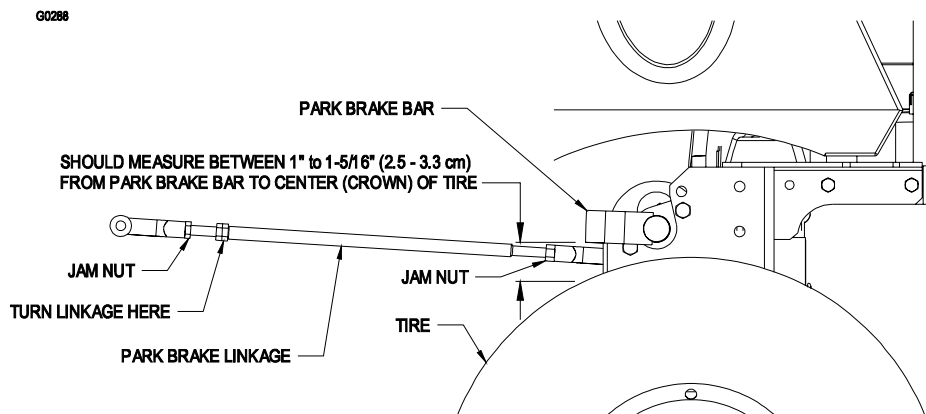

FIGURE 4
- 3.6.1 Disengage the park brake. Measure the distance vertically from the lower front corner of the brake bar to the crown of the tire. The distance should measure 1" (2.5 cm) to 1 5/16" (3.3 cm). To adjust the brake, loosen the jam nuts next to the yoke at each end of the park brake linkage. Place a wrench on one of the two nuts near the front of the park brake linkage. Turn the linkage until the distance from the lower front corner of the brake bar measured vertically to the crown of the tire is 1" (2.5 cm) to 1 5/16" (3.3 cm) with the park brake disengaged. Retighten the jam nuts. See Figure 4.